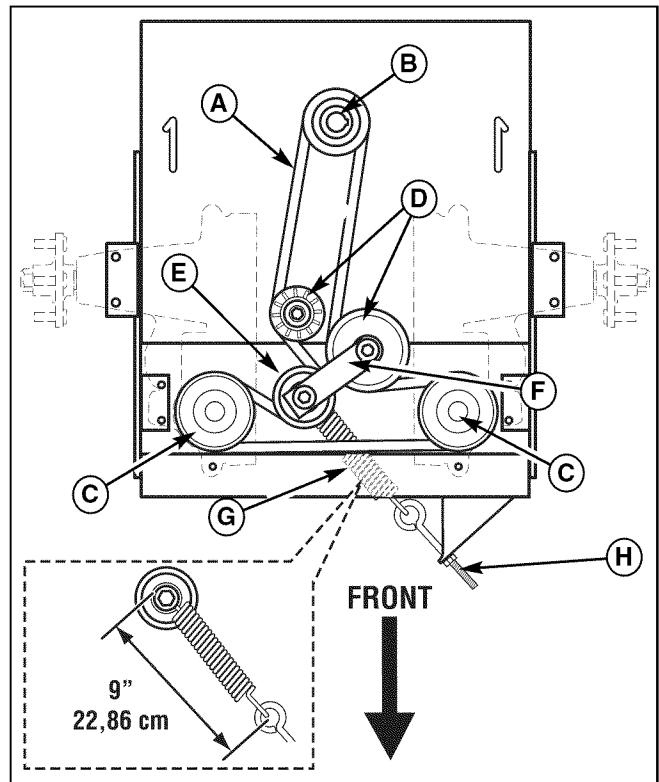

Figure 49. Hydraulic Pump Drive Belt Replacement (Shown from Below)
3. Loosen the nut towards the front of the machine on the spring anchor hook (H, Figure 49) to release the majority of the belt tension. Use caution and remove the nut to completely release the tension.
5. Reinstall the anchor hook (H) into the anchor tab and loosely fasten the nut. Adjust the spring until a measurement of 9" (22,86cm) is achieved from the outside of the spring hooks. Tighten nut.